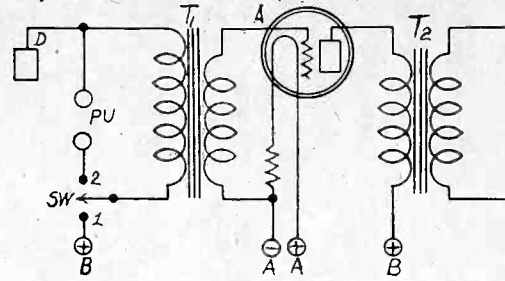

FIG. 82
If it is desired to connect the pick-up unit in series with the primary of the first transformer, it may be done as in Fig. 82. One side of the pick-up unit is connected permanently to the plate of the tube and the top of the transformer. The other side of the unit is connected to a point on the double throw, single pole switch SW. When the pick-up unit is to be connected to the transformer the switch is thrown to point (2). This disconnects the plate voltage so that no direct current can flow either in the tube or in the pick-up and transformer circuit. When the amplifier is to be used with the tuner, the switch is set on point (1). This disconnects the pick-up unit and puts the tube and the transformer primary on the battery.